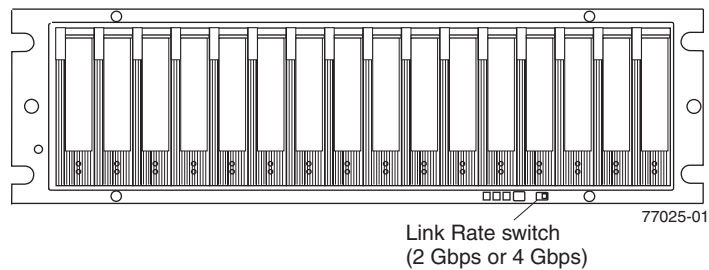

Figure 112. Link rate switch
A Link Rate switch is located on the front of the storage subsystem as shown in Figure 112 on page 161. The Link Rate indicator LEDs are located on the back of the storage subsystem. The Link Rate switch enables you to select the data transfer rate between the controllers and the drives to either 2 Gbps or 4 Gbps. The Link Rate switch is only read when the storage subsystem is powered up.
4. Locate the Link Rate switch. Figure 112 shows the location of the Link Rate indicator light on the front of the command module.